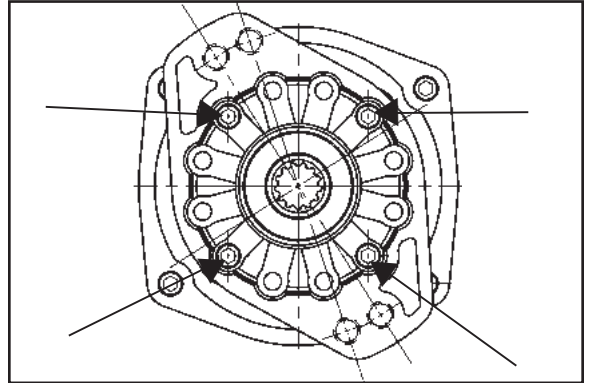

Fig. 9
9. If using a rotatable flange see page 34 for bolt torque specifications. (**Fig. 9**).